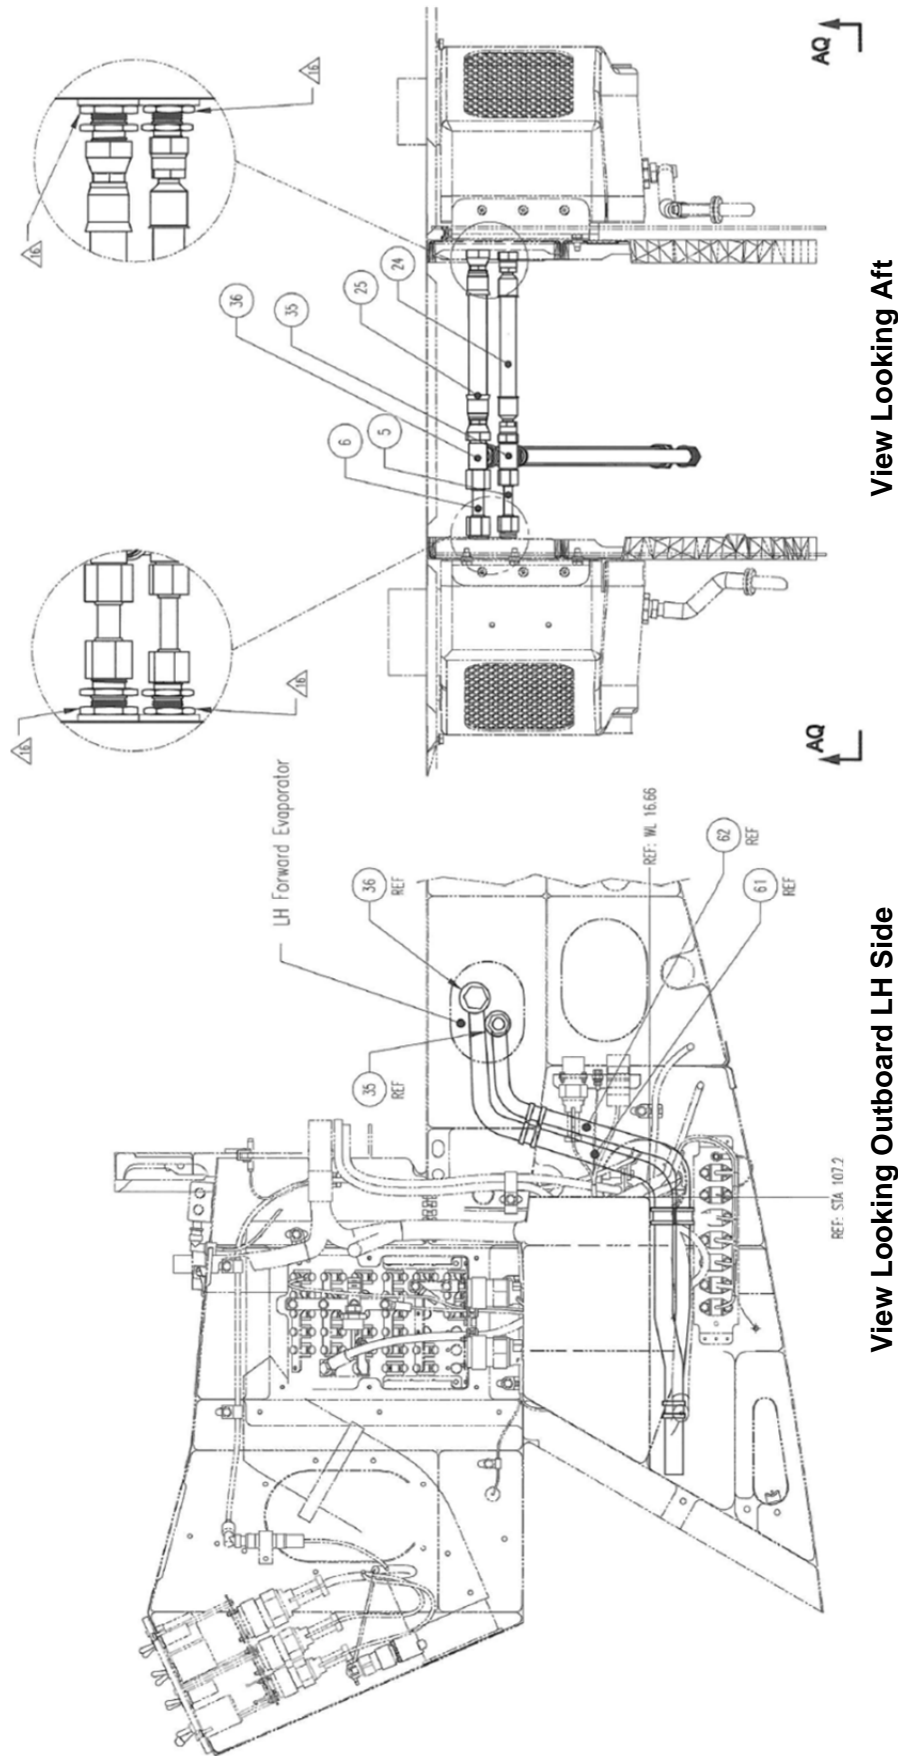

Figure 9: LH & RH Forward Evaporator Plumbing Installation
- e. Install LH & RH evaporator plumbing as follows (Figure 9):
FLAG NOTE 16 (Figure 9)